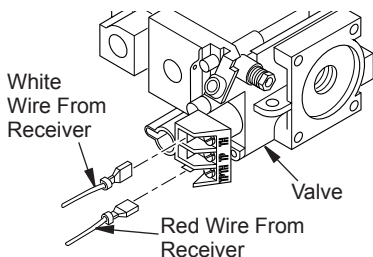

Figure 27 - Connecting Wires
5. Connect wires as shown in Figure 27.